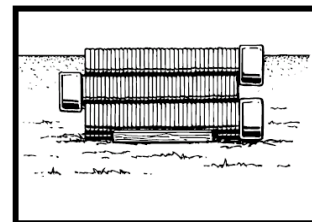

Fig 2
- While stacking, alternate the socket/coupler ends at each row of stacked pipes as per Fig. 2.